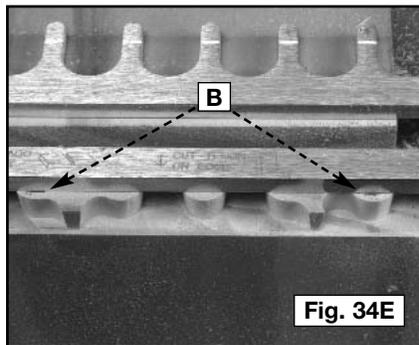

Fig. 34E
Step 7 - Adjust the template back and forth to align the edge of the template with the marks on the wood(B) Fig. 34E.